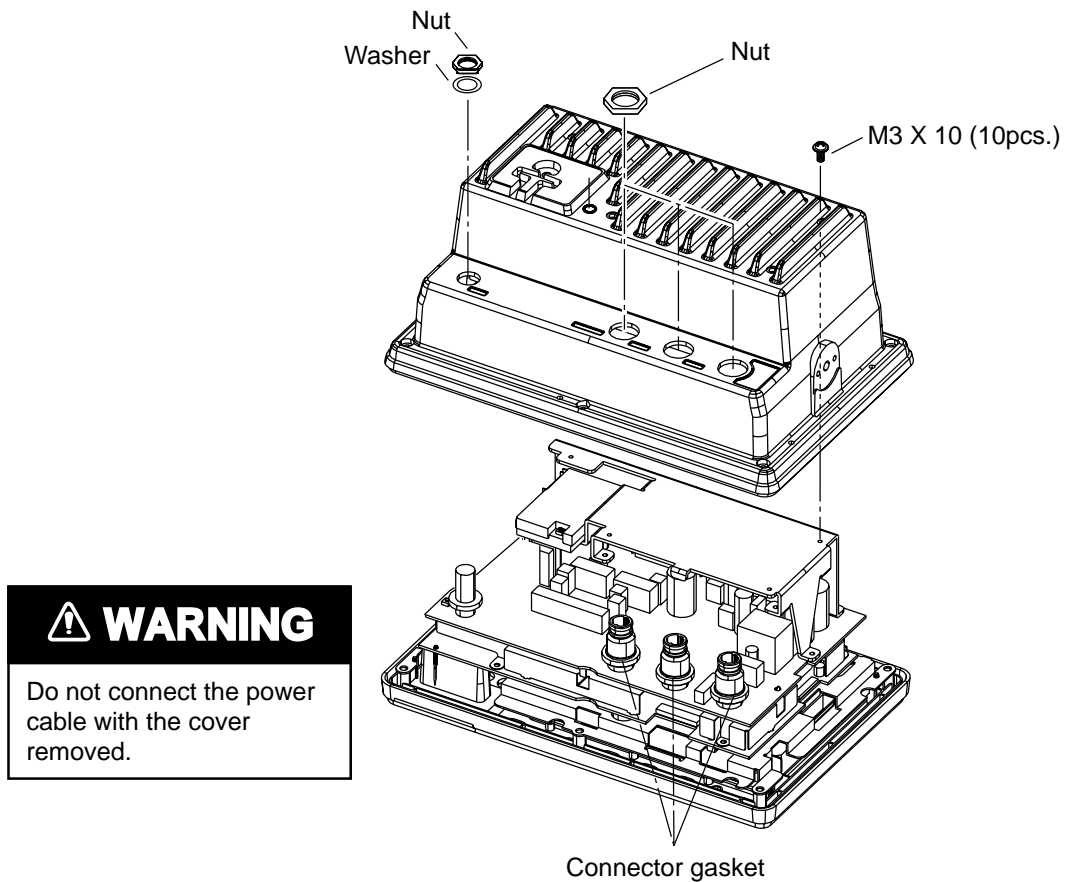

Figure 4-1 Removing cover assembly
- On ANLG Board : Connector gasket (See Figure 4-1.)